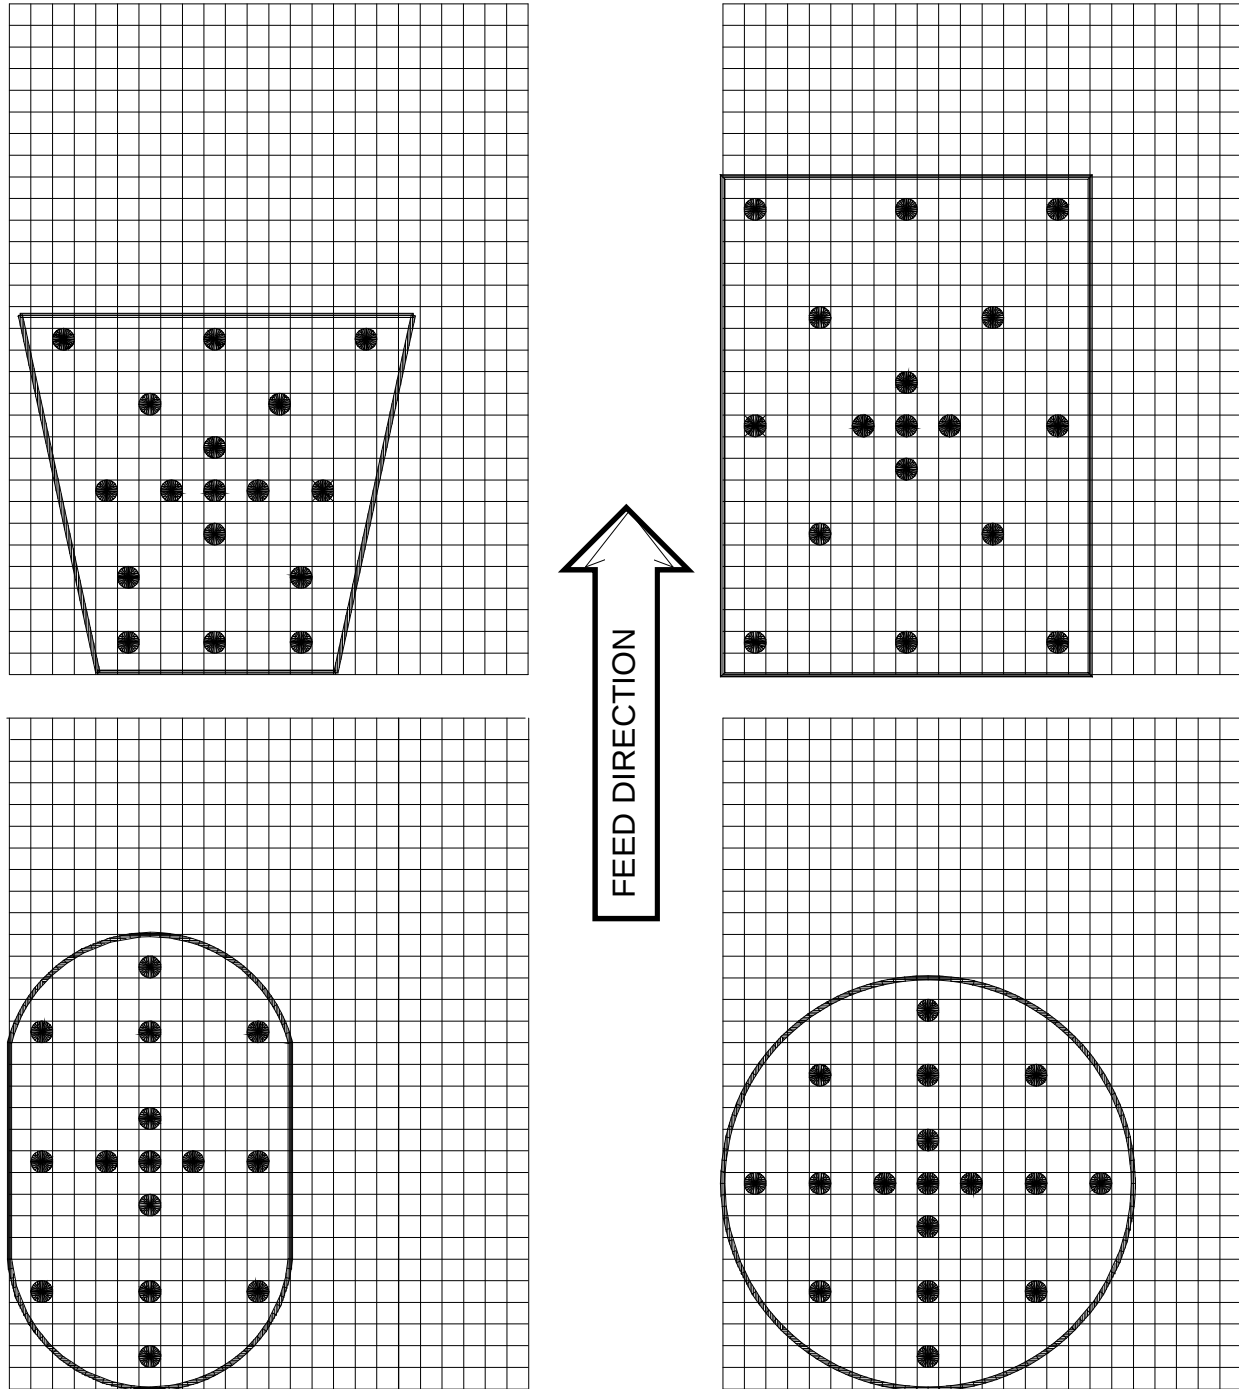

Figure 43 Air Blast Tube Arrangements
1. With the [POWER] OFF (O), turn the drive roller by hand to dispense one label; set it carefully aside.
2. With the [POWER] switch ON (O) and the machine ONLINE, touch the [LABEL FEED] button to dispense a label onto the grid. Then use the other label to tape it in position on the grid. This will show you the position of the label on the grid as you arrange the air jet tubes.
3. With the machine OFFLINE, remove the outer vacuum box and arrange the air jet tubes in a symmetrical pattern. Most of the tubes should be in the center of the label (see Figure 43 for examples). Make sure that the tubes are pushed all the way into the grid, but are not sticking out from the grid face. Insert any unused tubes in the storage block, and replace the vacuum box.